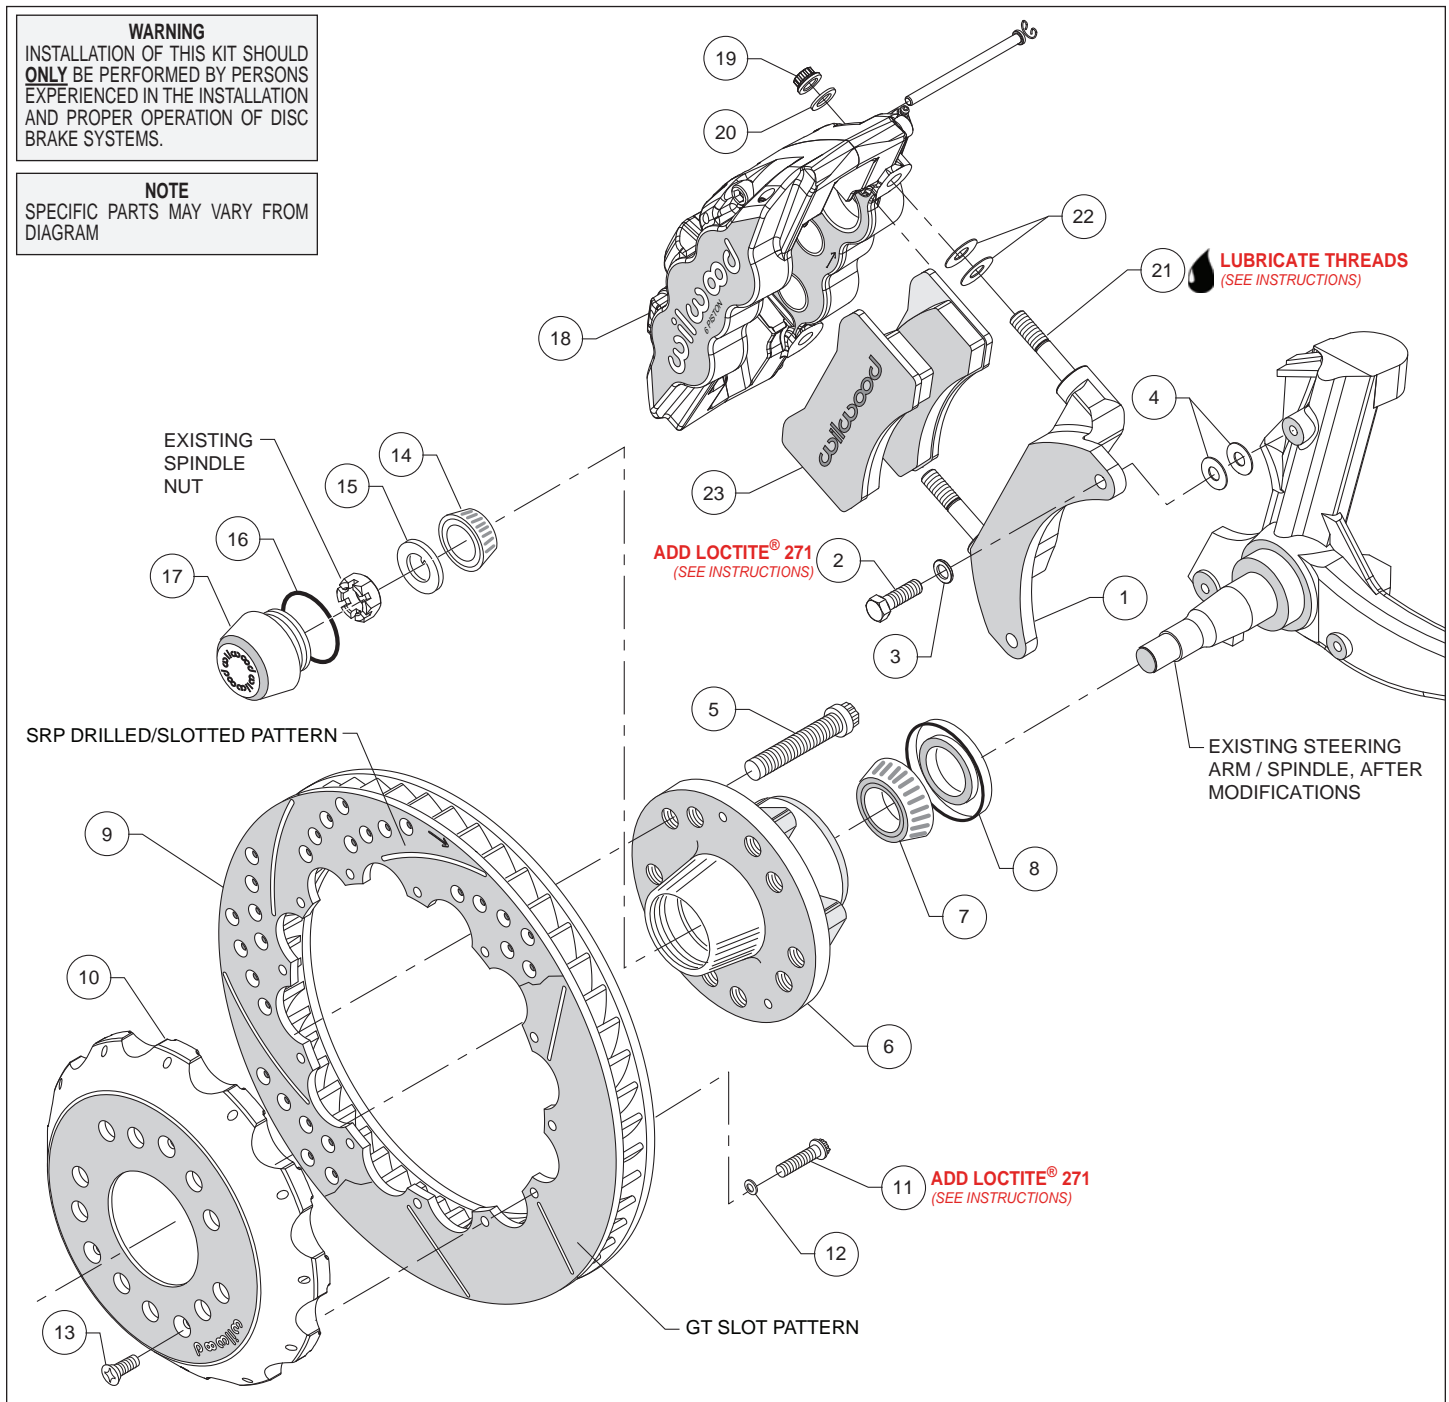
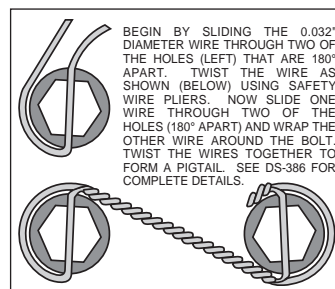

Figure 2. Typical Installation Configuration
Figure 4. Safety Wire Diagram
Assembly Instructions (numbers in parenthesis refer to the parts list and Figure 2 on the preceding pages):
- The caliper mount bracket (1) should initially be installed with clean, dry threads on the mounting bolts. Orient the bracket as shown in Figure 2 and Photo 1, and install using bolts (2) and washers (3). Initially place two .035" thick shims (4) on each bolt between the bracket and upright, Figure 2. Temporarily tighten the mounting bolts. **NOTE:** *The bracket must fit squarely against the mounting points on the spindle.* Inspect for interference from casting irregularities, machining ridges, burrs, etc. Later, after the caliper alignment has been checked, the mount bolts will be secured using red *Loctite*® 271.
- Orient the rotor (9) and the hat (10) as shown in Figure 2 and Photo 4. Attach rotor to hat using bolts (11) and washers (12). Using an alternating sequence, apply red *Loctite*® 271 to the threads, and torque to 155 in-lbs. For an added measure of security, the bolts may be safety wired using standard 0.032 inch diameter stainless steel safety wire as shown in Figure 4. Refer to Wilwood's data sheet DS-386 (available at www.wilwood.com/Pdf/DataSheets/ds386.pdf) for complete safety wire installation instructions.
- **NOTE:** This kit contains distinct right and left hand calipers that must be mounted in a specific direction, as described below. Lubricate the caliper mounting studs (21) with lightweight oil. Initially place two .030" thick shims (22) on each stud between the caliper and the bracket, as shown in Figure 2 and Photo 7. Mount the caliper (18) onto the bracket (1) using lock nuts (19) and washers (20), Figure 2. Ensure that the caliper is mounted so the largest pistons are at the rotor exit end of the caliper, in relation to the direction of rotor rotation. Temporarily tighten the lock nuts and view the rotor through the top opening of the caliper. The rotor should be centered in the caliper, Photo 8. If not, adjust by adding or subtracting shims (4) between the bracket and the upright. Always use the same amount of shims on each of the two mounting bolts. Once the caliper alignment is correct, remove the bracket mounting bolts (2) one at a time, apply red *Loctite*® 271 to the threads, and torque to 40 ft-lbs.
- Remove the caliper (18) then remove the two pad retaining pins from the caliper by carefully popping out the pin retaining clips and sliding out the pins. Insert the brake pads (23) into the caliper from the bottom, Figure 2 and Photo 9. With the friction material facing the rotor, secure the brake pads in place with the pad retaining pins and clips, Photo 10. Reinstall the caliper onto the caliper mounting bracket and temporarily tighten the lock nuts (19). Check that the top of the brake pad is flush with the outside diameter of the rotor, Photo 11. If not, adjust by adding or subtracting shims (22) between the caliper (18) and the bracket (1). After the caliper pad height is set, torque the caliper lock nuts (19) to 47 ft-lb.